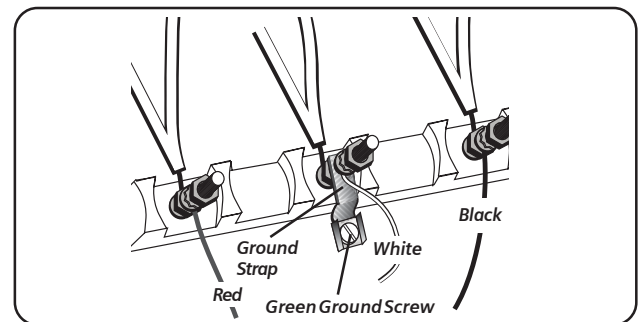

Figure 8
2. Measure to locate bracket position as shown in Figure 8.
7. Tighten all connections securely and replace terminal block cover (See Figure 8).